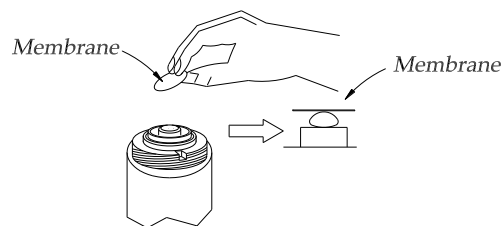

Fig. 5.1.8
7. Place a new membrane onto the measuring electrode. Due to the hygroscopic behaviour of the electrolyte, the membrane will easily stay in place (fig. 5.1.8).